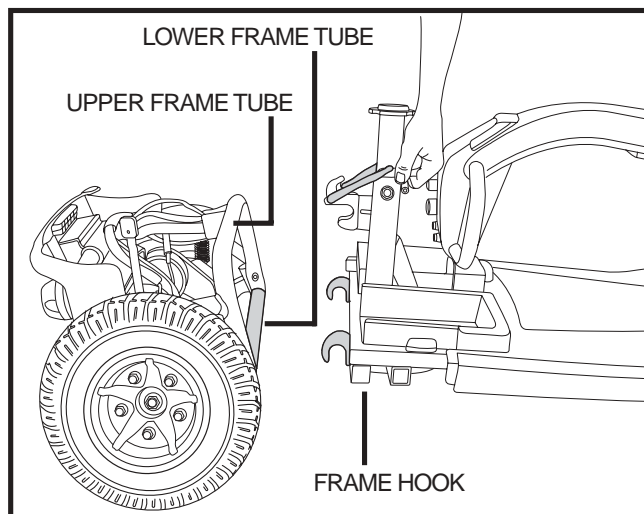

Figure 26. Frame Separation
3. Lift the front section up until the frame hooks of the front section separate from the rear section. See figure 26.
NOTE: Stabilise the rear section with your free hand by holding onto the upper frame tube. See figure 26.
4. Slowly separate the two sections. See figure 26.
1. Position the front and rear sections of your scooter as shown in figure 26.